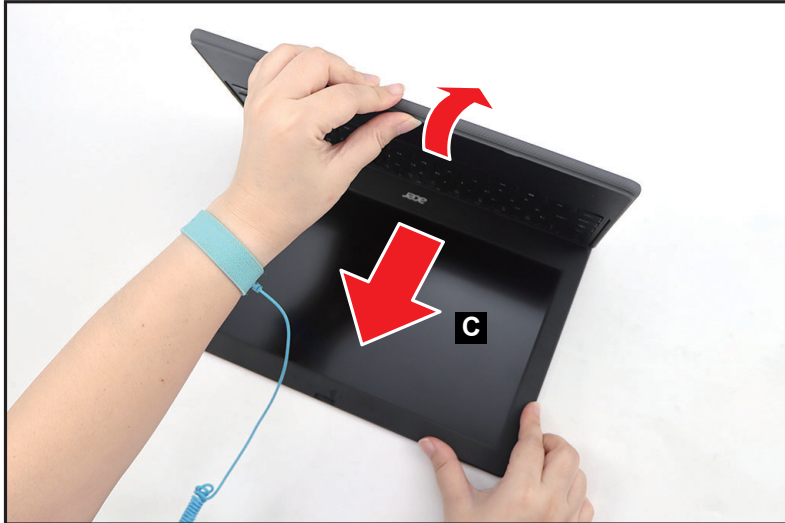

Figure 1-27. LCD Module Removal
6. Open the top assembly again. Then remove the LCD module (C) away from the top assembly (Figure 1-27).